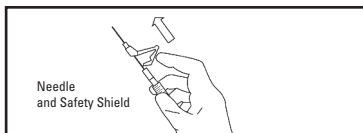

Figure 2
- After completing the anesthetic injection, DO NOT recap or remove the injection needle from the syringe. Use a single finger to push the lever arm forward to advance the shielding mechanism over the needle tip. A click will be heard as the shield passes over the needle tip. Needle coverage should then be visually confirmed (Figure 2).